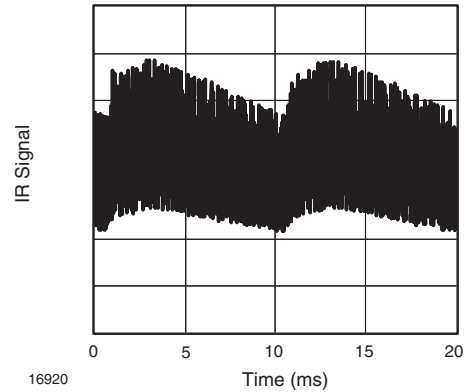
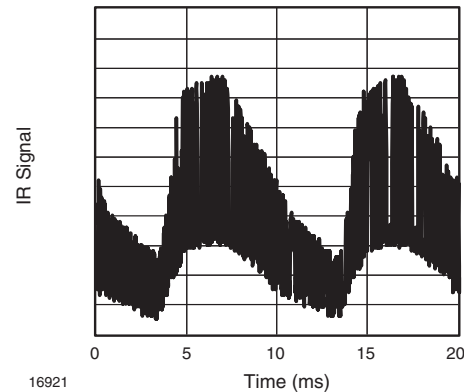

Fig. 14 - IR Disturbance from Fluorescent Lamp with Low Modulation
Fig. 15 - IR Disturbance from Fluorescent Lamp with High Modulation
- Strongly or weakly modulated patterns from fluorescent lamps with electronic ballasts (see Fig. 14 or Fig. 15)